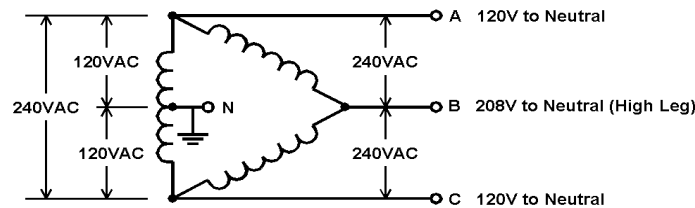

Fig 8 -High Leg Delta
Figure 8 shows a variation of the delta configuration that is widely used in North America, especially in older mixed residential and industrial areas, and in rural areas. One leg of the delta has a grounded center-tap that serves as the neutral for a single-phase 120/240VAC system, and 208 volts is available for certain industrial applications. See the Appendix for a more detailed discussion of this configuration and the quite severe hum and buzz problems it can cause.
- 120/208V/240V High leg Delta (Figure 8)